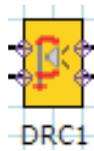

Figure 5. TAS57xx DRC Icon
3. Open the DRC Configuration Tool by either double-clicking on the DRC icon or right-clicking > "Activate DRC GUI". See Figure 5.